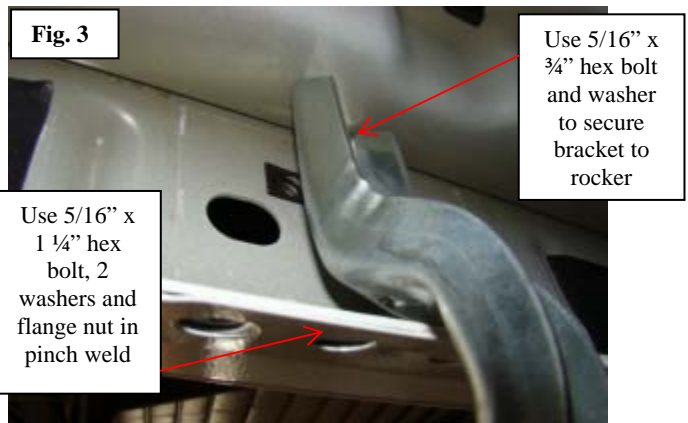

Fig. 3
Step 4: Attach the bracket to rocker panel using 5/16" x 3/4" hex bolt and washer to the installed u-nut. Do not fully tighten. Now install a 5/16 x 1 1/4" hex bolt, washer and flange nut through pinch weld hole and hole in the bend of bracket. **Note:** Remember this step is done at the front and rear mounting locations. **See figure 3.**